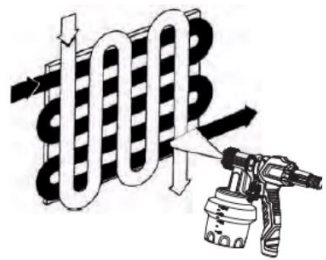

Fig. 10
4. Move the spray gun evenly side to side or upwards and downwards for best results. If necessary, you can perform both actions one after the other, which is known as a cross spray technique (Fig. 10).